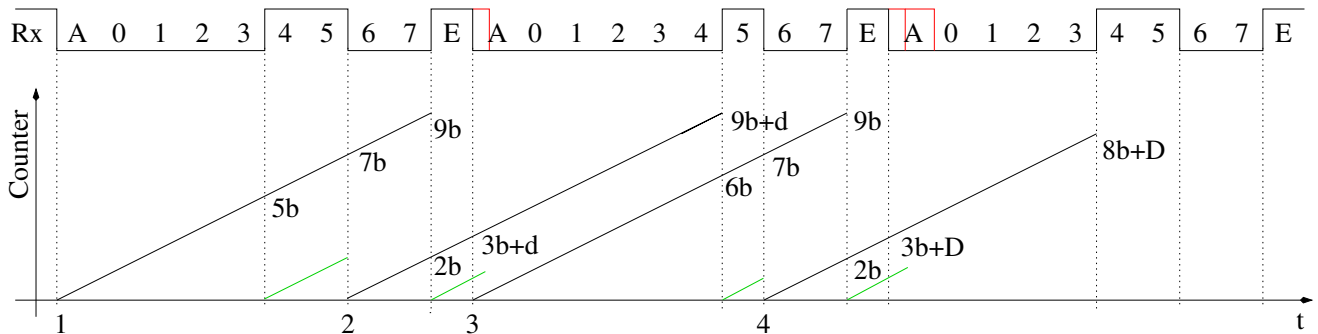

Figure 3.6. Possibel timer measurements for the STK\_GET\_SYNC sequence
If you specify a baud rate below  $100Baud$  for generating the bootloader code, the program will be prepared to detect the baud rate from the first received character. At the begin if the transmission with the STK500 protocol the computer send a command STK\_GET\_SYNC (0x30) followed by the control character CRC\_EOP (0x20). For the serial transmission protocol the High level (1) is defined as the idle state. The begin of a transmission is started by s start bit with Low level (0). Directly after the end of the start bit the first data bit is send beginning with the low order bit. After the last of the aggreed count of bits (8) is transmitted, the transmission is finished with one or more Stop bits at High level (1). The level of every bit is hold exactly the aggreed baud time. The time between the end of the last Stop bit and the begin of the next Start bit is unspecified. The figure 3.6 shows the expected results for all possible time measurement. At the time axis "t" four possible start positions are marked for a complete time measurement of the assumed character. The counter is started in each case of a detected 1-0 slope. The right start position for the STK\_GET\_SYNC character is marked with "1". The marks "2", "3" and "4" show the situation for three possible wrong Start bit detections. For the mark "2" and "4" a 1-0 slope of data bits is detected as Start
bit in a wrong way. For the mark '3' is a Start bit correctly detected, but for the wrong character (CRC\_EOP). The wrong detections are allways possible, if the bootloader is started not before the transmission was running. The expected counter values are marked at the counter level graph for all four start positions in figure 3.6. The "b" means the counter reading for one bit transmission time (baud time), the "d" stand for a possible time delay between the end of the Stop bit transfer and the start of a new Start bit. The "D" represents a expected long time delay to the begin of the next message. The transmit sequence of the message has reached it's end and the computer wait for an answer of the AVR. In the "Rx"-row the data bits are labled with "0" (least significant bit) to "7" (highest significant bit). The Start bit has the label 'A' and a Stop bit has the label 'E'. The first byte is the coding of the STK\_GET\_SYNC character and the second byte is the coding of the control character CRC\_EOP.